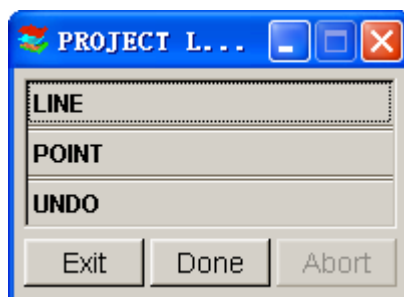

Figure 5.1.9 Project Line
- PROJECT LINE/POINT is displayed. See Figure 5.1.9.